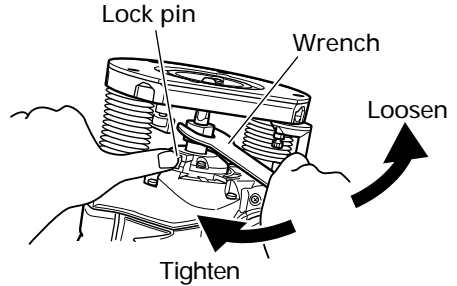

Fig. 2
- (1) Clean and insert shank of bit into the collet chuck until shank bottoms, then back it out approximately 1/16" (approx. 2 mm).
- (2) With the bit inserted and pressing the lock pin holding the armature shaft, use the 23 mm wrench to firmly tighten the collet chuck in a clockwise direction (viewed from under the router). (Fig. 2)
- (3) When using the 1/4" diameter shank bit, replace the equipped collet chuck with the one for 1/4" diameter shank bit which is provided as the standard accessory.